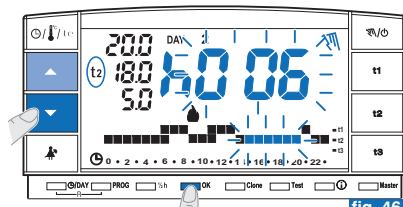

fig. 46
- Set the desired duration with keys  , then press **OK** to confirm (example in fig. 46).